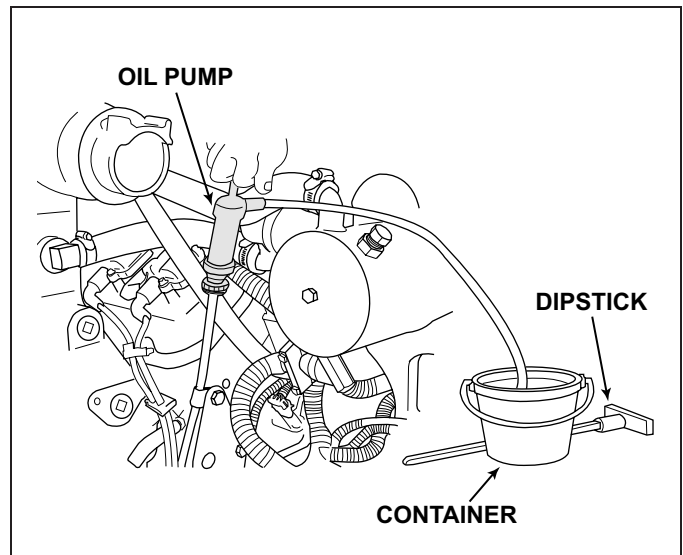

Figure 11-19 Engine Oil Removal
1. With the engine at normal operating temperature, remove the dipstick and install a crankcase oil pump onto the dipstick tube (Figure 11-19). Insert the discharge hose into a suitable container. Pump the oil from the engine until the crankcase is empty. Remove the oil pump from the dipstick tube.